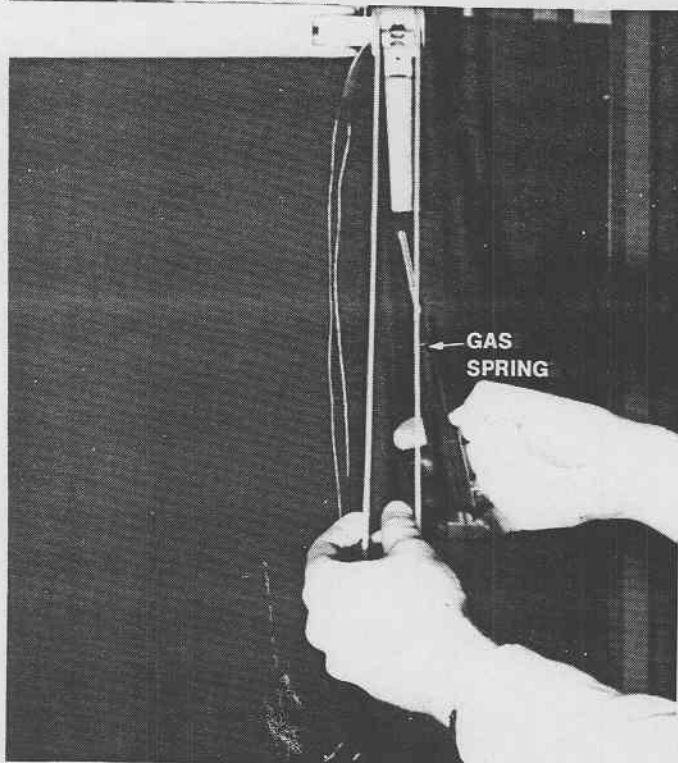

FIGURE 18—REPLACING GAS SPRING
- G. Slide cover off arm and replace gas spring. Refer to Figure 18 for a similar replacement procedure.